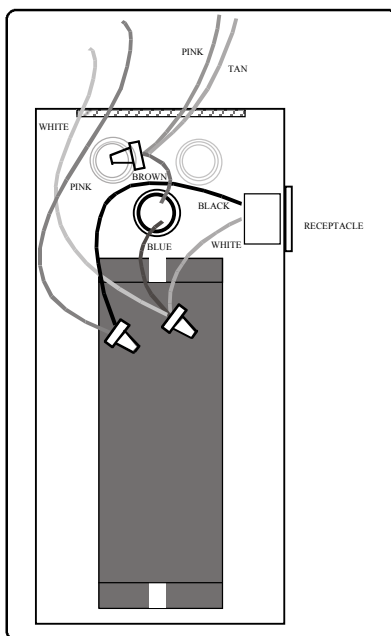

Figure 2
At this junction, cut the pink wire several inches from the junction. Strip each end of wire 1/2". See figure 2.
- Route all interconnecting wires through newly created knockout hole. See Figure 2.